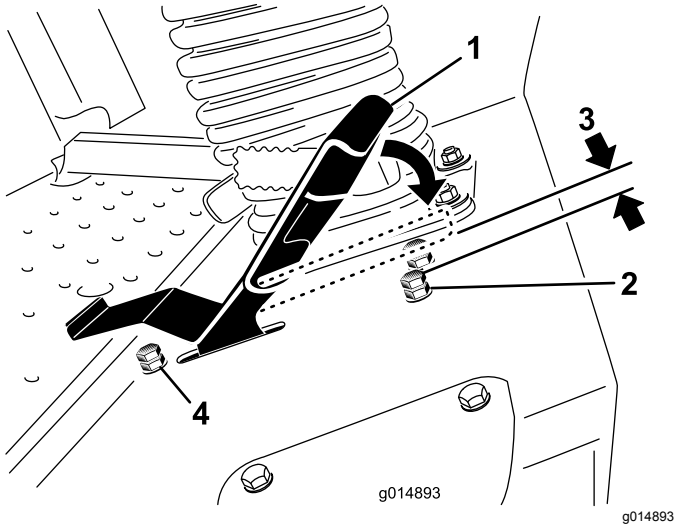

Figure 66
3. Loosen the jam nut on the stop bolt for the traction pedal (Figure 66).